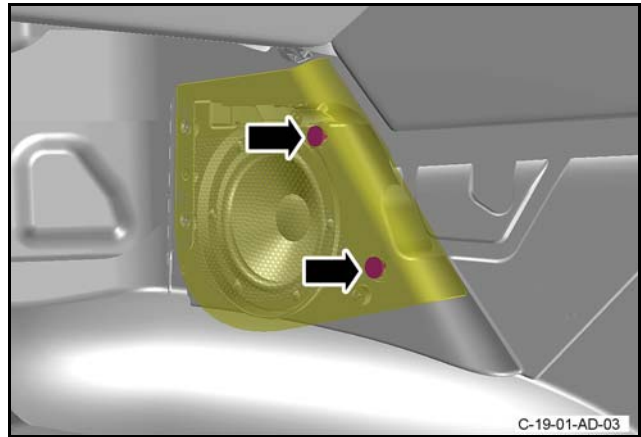

Figure 4
- 18. Release the grille for the footwell speaker from the two tabs that attach it to the footwell speaker and remove the grille (refer to Figure 4).